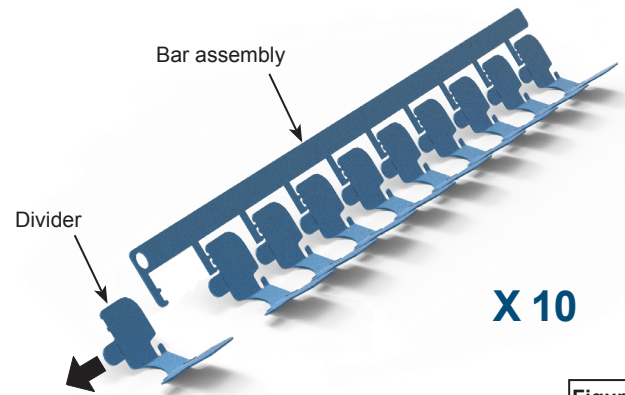

Figure 5.1
1. Pull dividers off bar assembly. **Figure 5.1.**